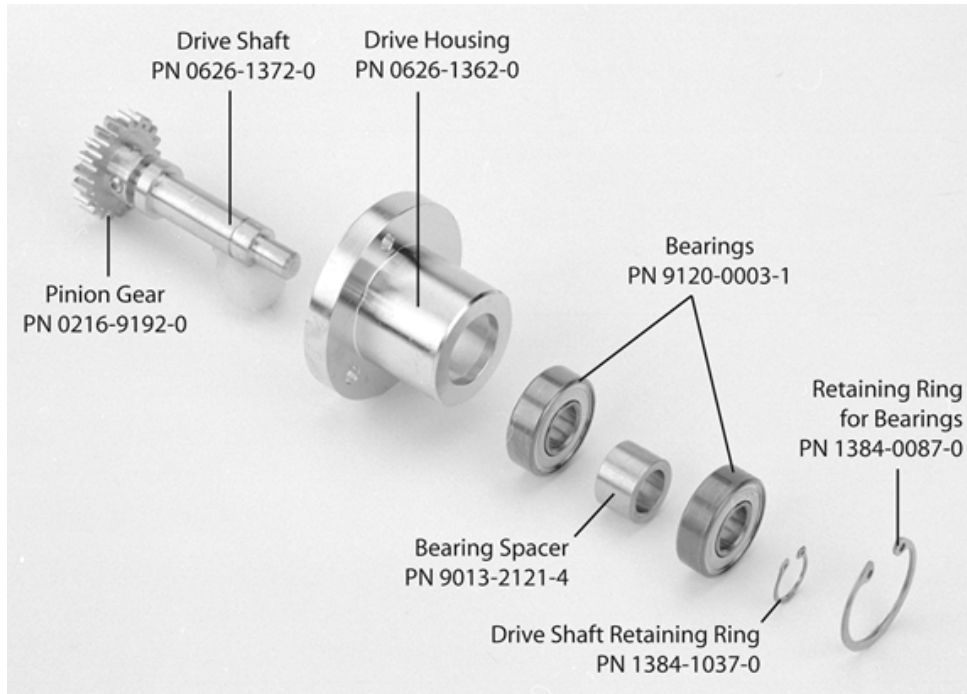

Figure 5-34. The parts of the drive shaft assembly laid out in order of reassembly
Follow the steps described below and refer to Figure 5-34 when reassembling the drive shaft assembly.
Step 2: Put the two bearings and the spacer in place inside the drive-bearing housing. Figure 5-34 shows the correct order and orientation for reassembly of these parts. Note that the bearings and their spacer will only fit into one end of the bearing assembly.